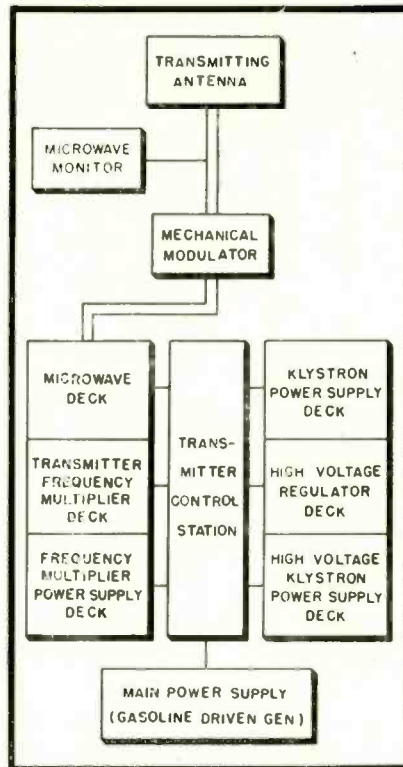

Fig. 4. Block diagram of transmitting equipment; glide path and localizer units contain essentially same equipment, as explained
The response for the low-pass circuit will be down 6 db when $\omega RC = 1$ and there is no phase reversal as indicated by equation (6). The frequency response for this low-pass filter is illustrated in Fig. 4.
Fig. 4 is a block diagram of the complete transmitter. Essentially this transmitter is composed of klystron microwave tubes and the necessary fre-